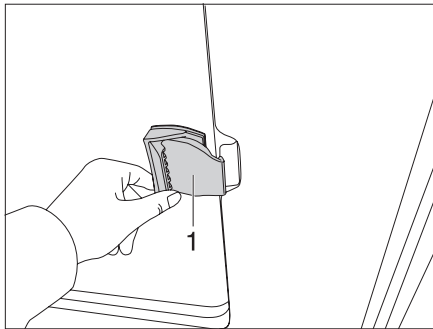

Fig. 38 Sliding window without lock
- Pull the handle flap (Fig. 38,1) and push or pull the handle forwards at the same time.